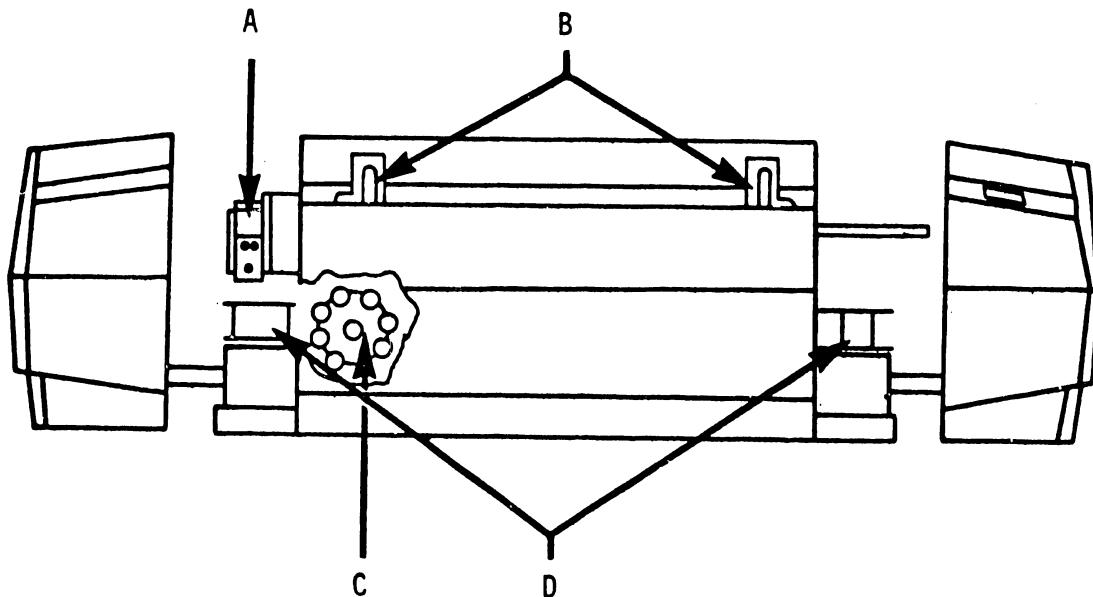

FIGURE 2-2 REMOVAL OF PACKAGING TAPE
- 8) Open the front cover and extend side covers to remove the tape from the following areas: (Refer to Figure 2-2).